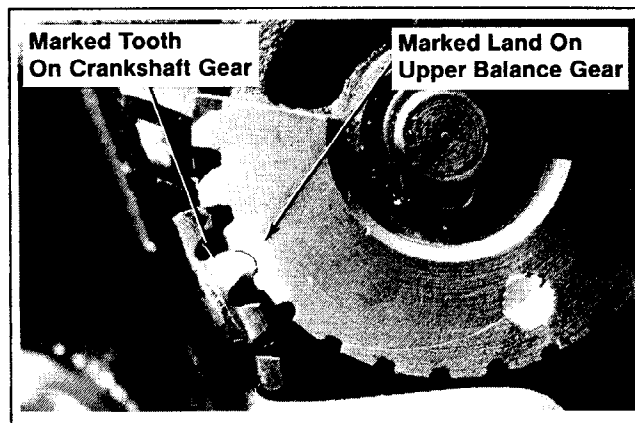

Figure 12-27. Aligning Crankshaft Gear And Upper Balance Gear.
2. Lubricate the rear bearing surface of crankshaft. Insert the PTO end of crankshaft through the rear bearing. Align the twelfth (12th) tooth marked on crankshaft gear with the seventh (7th) land marked on upper balance gear. Refer to Figure 12-27.